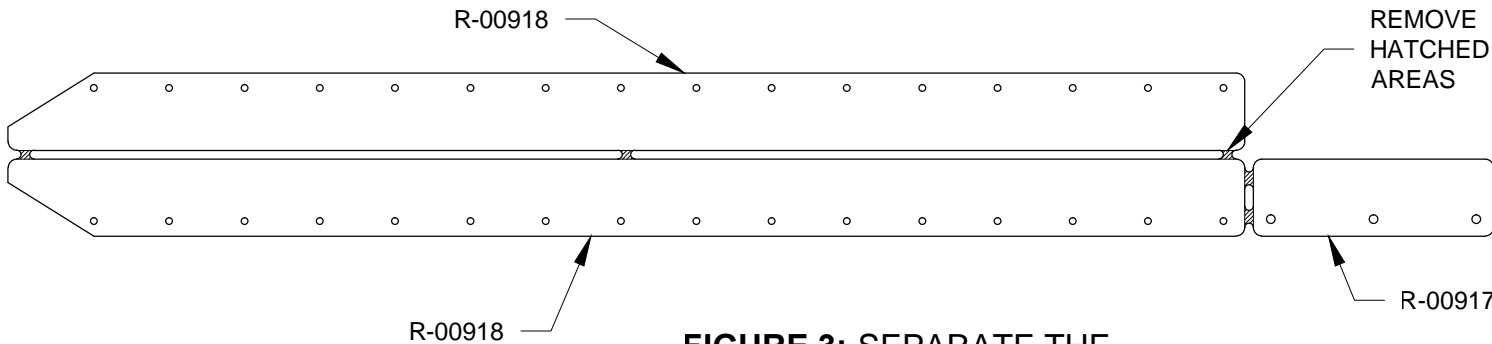

FIGURE 3: SEPARATE THE
Step 3: Separate the R-00917 Shim and R-00918 Attach Strips by removing the hatched areas as shown in Figure 3. Deburr parts.